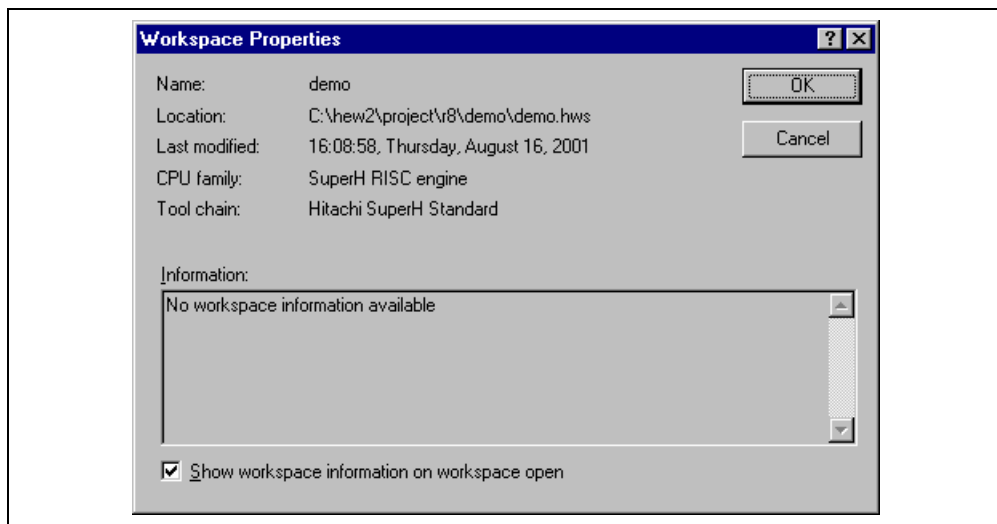

Figure 6.10: Workspace Properties Dialog
2. Click the right mouse button to invoke the pop-up menu and then select the “Properties” option. The dialog shown in figure 6.10 will be displayed.